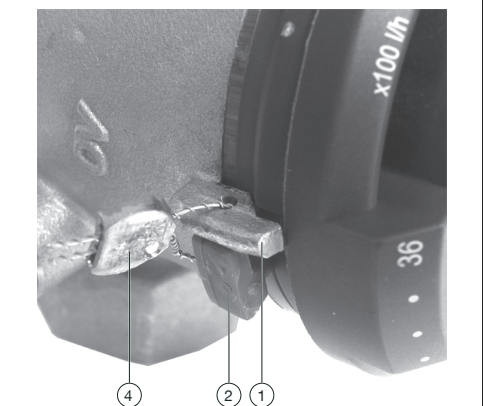

Abb. 15: Securing the preset
Optionally, the blocking ring (2) can be lead-sealed with the lead seal set (4) (accessory, item no. 1089091) at the target value marking (1) (see Abb. 15).